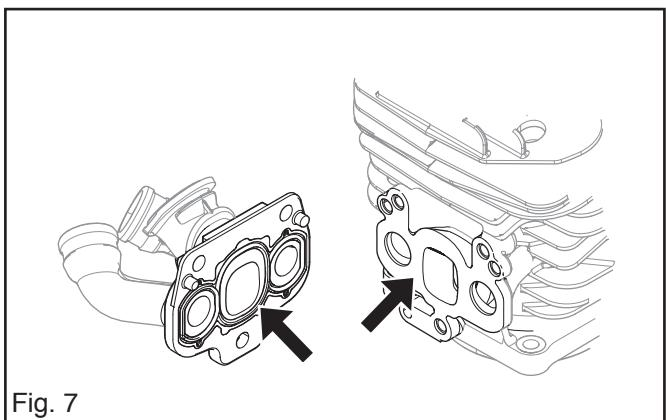

Fig. 7
7. That the intake manifold and it's rubber seals are undamaged. See fig. 7.